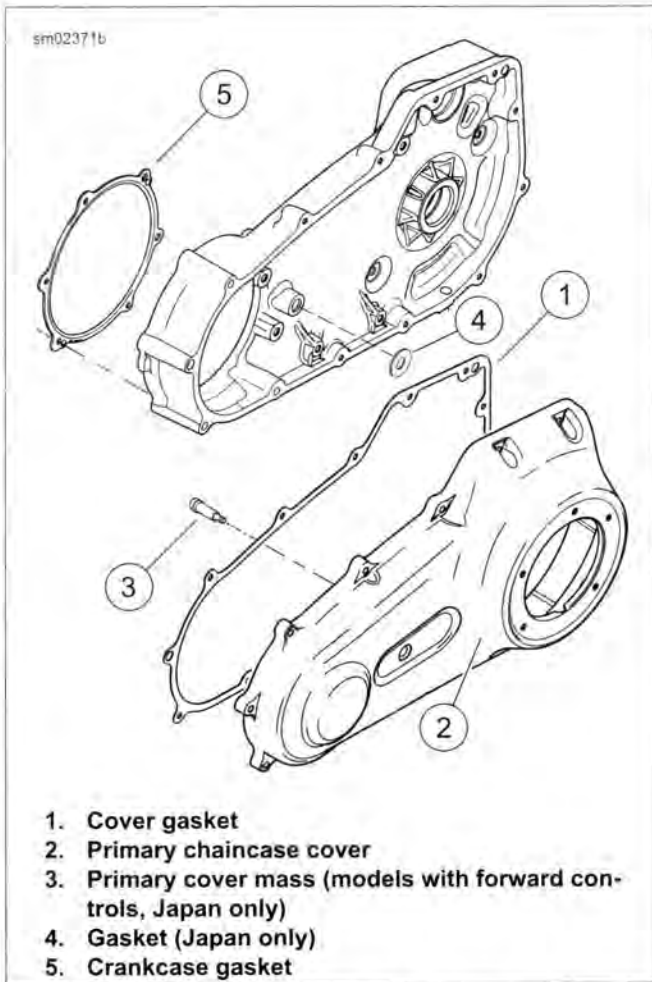

Figure 5-2. Primary Chaincase Cover Gasket
1. **Japanese models with forward controls:** See Figure 5-2. If primary cover mass (3) was removed from primary chaincase cover (2):
2. **All models without forward controls:** Install **new** tower gasket (4).